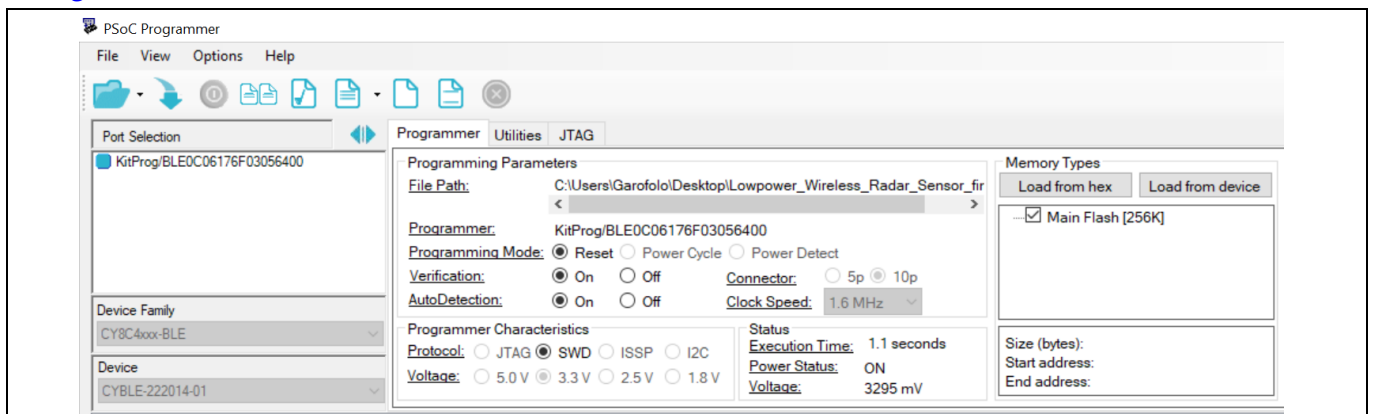

Figure 9 PSoC™ Programmer
3. Open the PSoC™ Programmer and plug the dongle into a USB port on the computer. It should look like Figure 9.